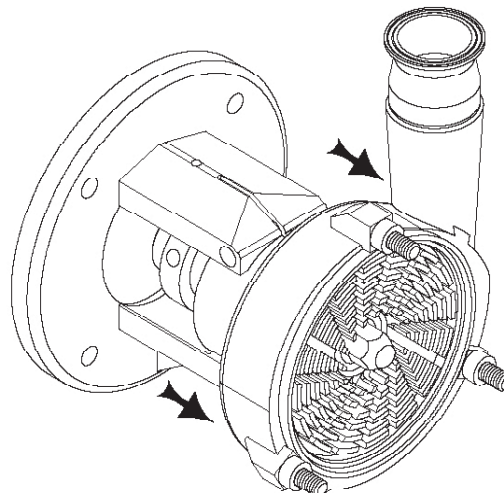

Figure 21
- Loosen the shaft collar screw (36) on the shaft collar (37) with the 3/16" or 1/4" Allen wrench (depending on the motor frame size).
If the pump shaft does not pull off the motor shaft, the housing (17) and rotor (38) can be reinstalled to aid in removal (*Figure 21*). To do this, first ensure that the stationary seal (15) is not in the housing. Next install the housing onto the flange support (2). **DO NOT TIGHTEN THE FLANGE CLAMPING BOLT (4)**. Install the rotor onto the pump shaft and place a clean cloth or brass shim between the rotor and housing to prevent the rotor from scratching the housing during the shaft removal process. Thread the rotor nut (22) and rotor nut gasket (21) onto the shaft and tighten by hand. Now pull on the stator to loosen the pump shaft from the motor shaft. Tapping on the back of the stator with the soft-faced mallet may be required.